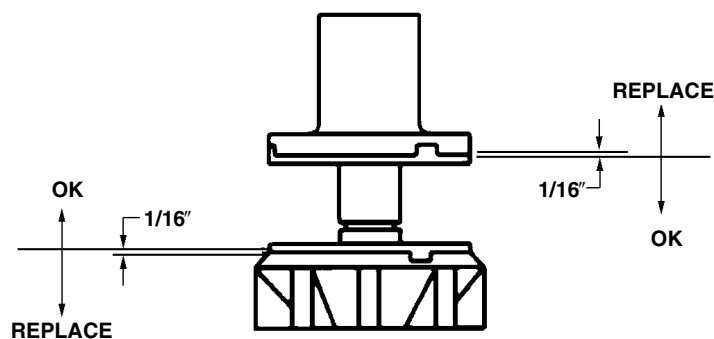

FIGURE 4. UPPER NUT AND BEARING ASSEMBLY
7. Check white upper bearings on auger assembly. If bearings are less than 1/16" thick, replace. See Figure 4